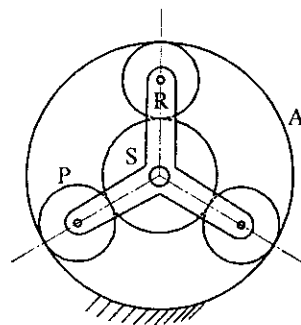

Fig. 7.45
6. An epicyclic gear train is shown in fig. 7.45. The sun wheel S has 15 teeth and is fixed to the motor shaft rotating at 1450 rpm. The planet P has 45 teeth, gears with fixed annulus A and rotates on a spindle carried by an arm which is fixed to the output shaft. The planet P also gears with the sun wheel S. Find the speed of the output shaft. If the motor is transmitting 1.5 kW, find the torque required to fix the annulus.